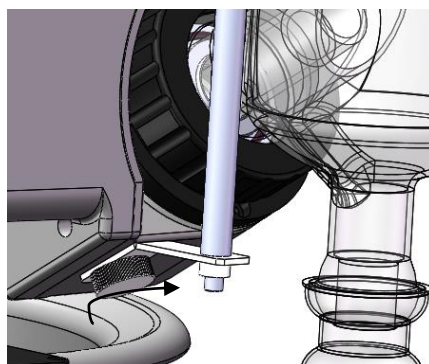

Fig. 8
- Mount the fixing device for the vertical condensation glass assembly (Fig. 8)